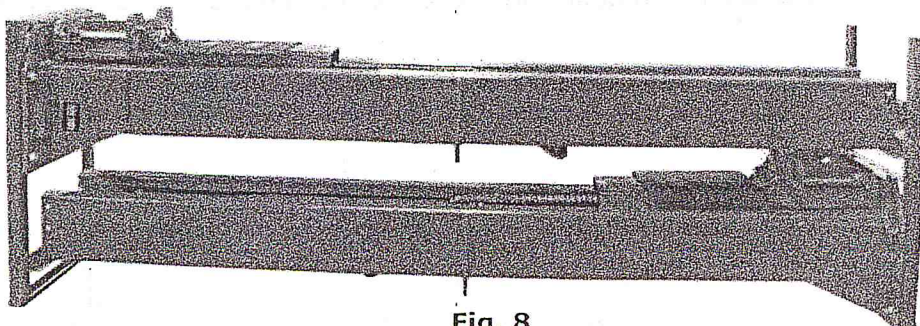

Fig. 8
3. Remove the parts from the upper and inside of the column. Remove the parts box, and check the parts according to the shipment parts list (See Fig. 8).